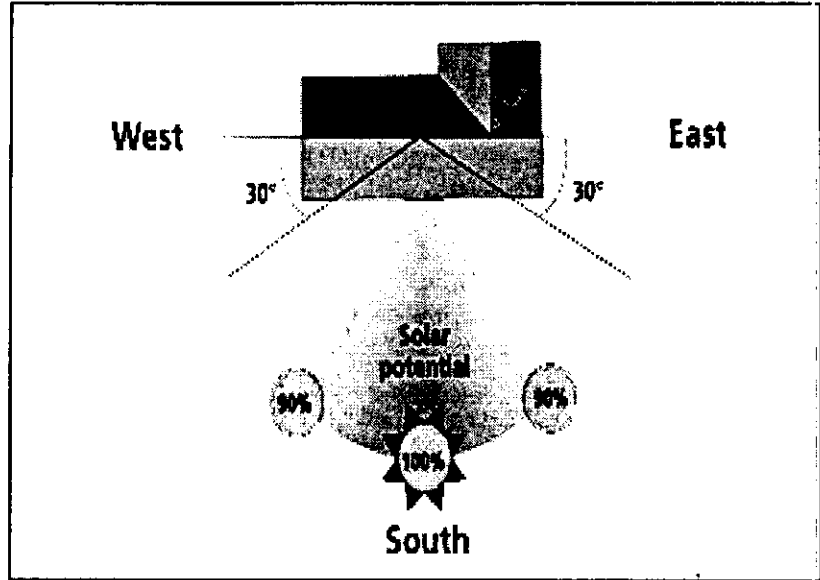

Figure 2.1 Building Orientation
All buildings, no matter what climate, perform better if the longest wall faces the south. The optimum shape of a Florida home is rectangular, elongated on its east-west axis at a ratio of 1:1.7 in order to maximize its north and south surface area, therefore minimizing east-west exposure to solar heat gain (Figure 2.1).
**The rule for ventilation with regards to building orientation is that air flow is often better captured when the house is placed off the cardinal (north-south) directions by approximately 30 degrees as shown in Figure 2.1.** This strategy takes full advantage of prevailing breezes and wind patterns during summer months, while blocking any potential winter winds. Again, compromise is often needed between solar and ventilation design strategies. Table 2.3 provides a summary of important natural features to consider when determining building placement.